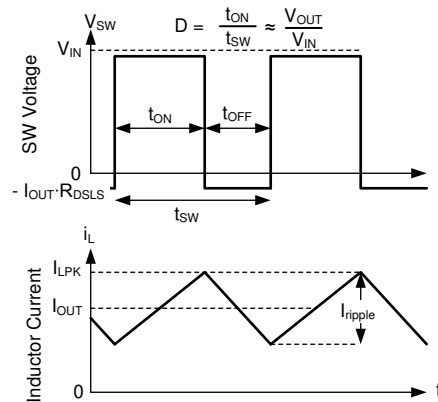

図 7-17. SW Voltage and Inductor Current Waveforms in Continuous Conduction Mode (CCM)
The following operating description of the LMR36503E-Q1 refers to the セクション 7.2 and to the waveforms in 図 7-17. In CCM, the LMR36503E-Q1 supplies a regulated output voltage by turning on the internal high-side (HS) and low-side (LS) switches with varying duty cycle (D). During the HS switch on-time, the SW pin voltage,  $V_{SW}$ , swings up to approximately  $V_{IN}$ , and the inductor current,  $i_L$ , increases with a linear slope. The HS switch is turned off by the control logic. During the HS switch off-time,  $t_{OFF}$ , the LS switch is turned on. Inductor current discharges through the LS switch, which forces the  $V_{SW}$  to swing below ground by the voltage drop across the LS switch. The converter loop adjusts the duty cycle to maintain a constant output voltage. D is defined by the on-time of the HS switch over the switching period: